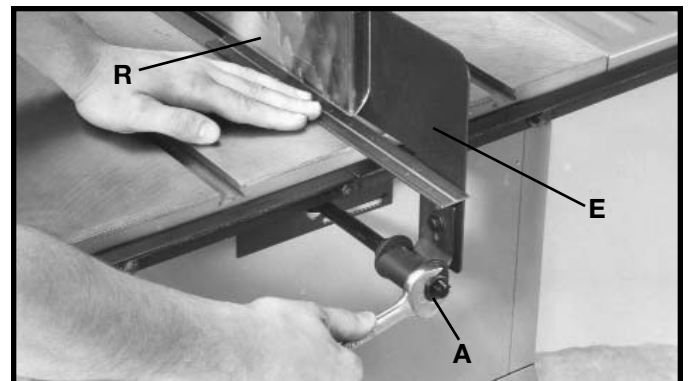

Fig. 29
10. Using a straight edge, check to see if the splitter (E) Fig. 29, is aligned with the saw blade (R). If an adjustment is necessary, the splitter (E) can be moved left or right and rotated by loosening nut (A) Fig. 29, and adjust accordingly.